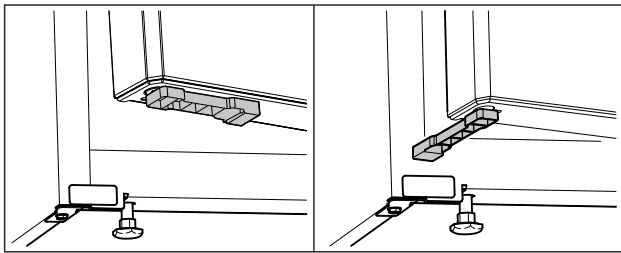

Fig. 69 *
▶ Turn door spacer by 90°. (see Fig. 69) *